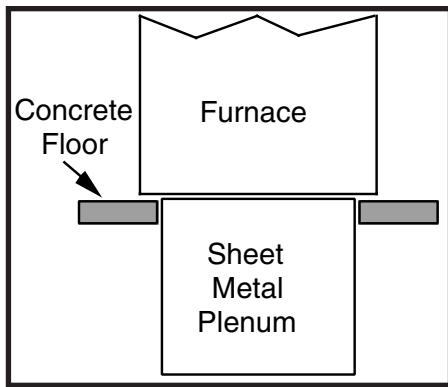

Figure 11. Furnace on a Concrete Slab
2. Position the plenum and the furnace as shown in Figure 11 (page 17).